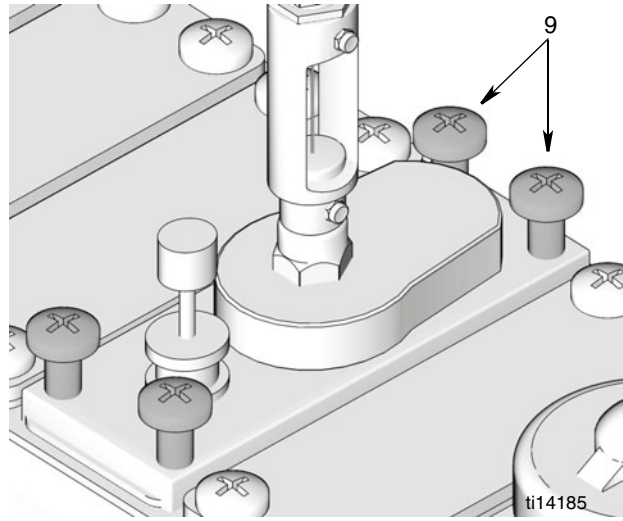

FIG. 6
2. Install fasteners (9). Hand tighten securely (FIG. 6).